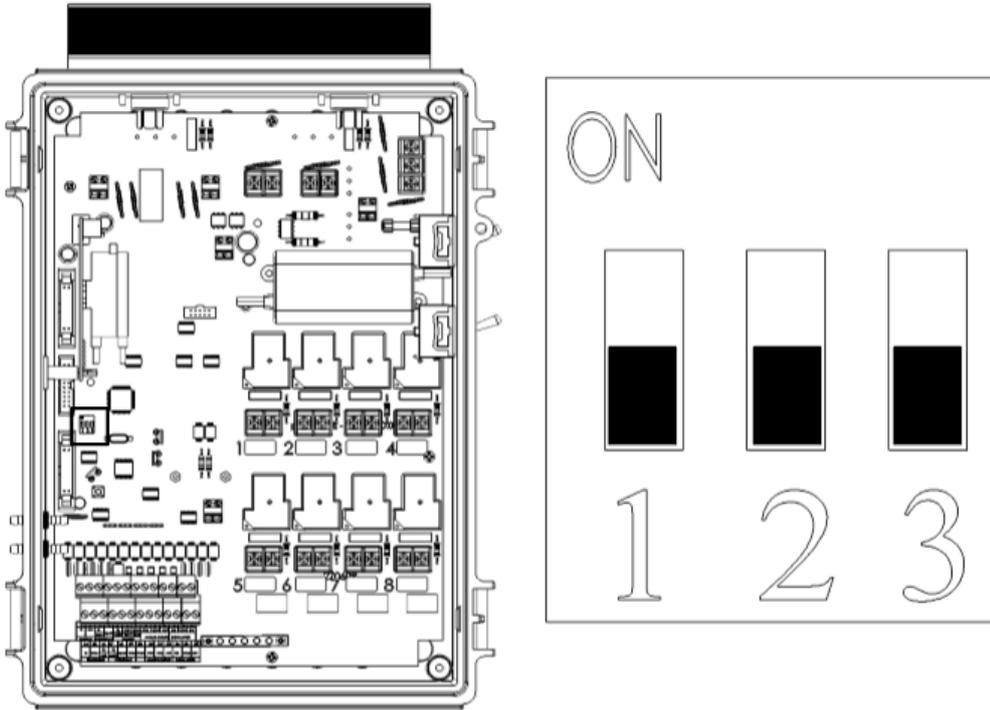

Figure 12: Element Extension Dipswitches
- Figure 12: Element Extension Dipswitches